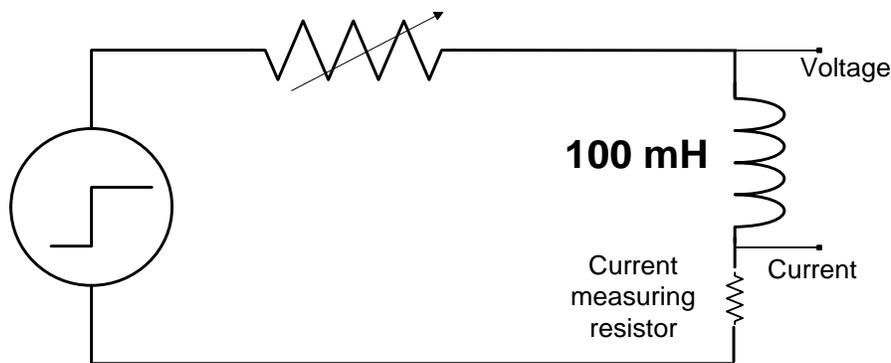

Fig. 2. The experimental R-L circuit.
3. (a) Construct the circuit of Figure 2. Set the resistance box to  $500\ \Omega$ .
5. Simulate the experiment circuit (Figure 2) in Pspice. For each value of R used above compute the circuit time constant.